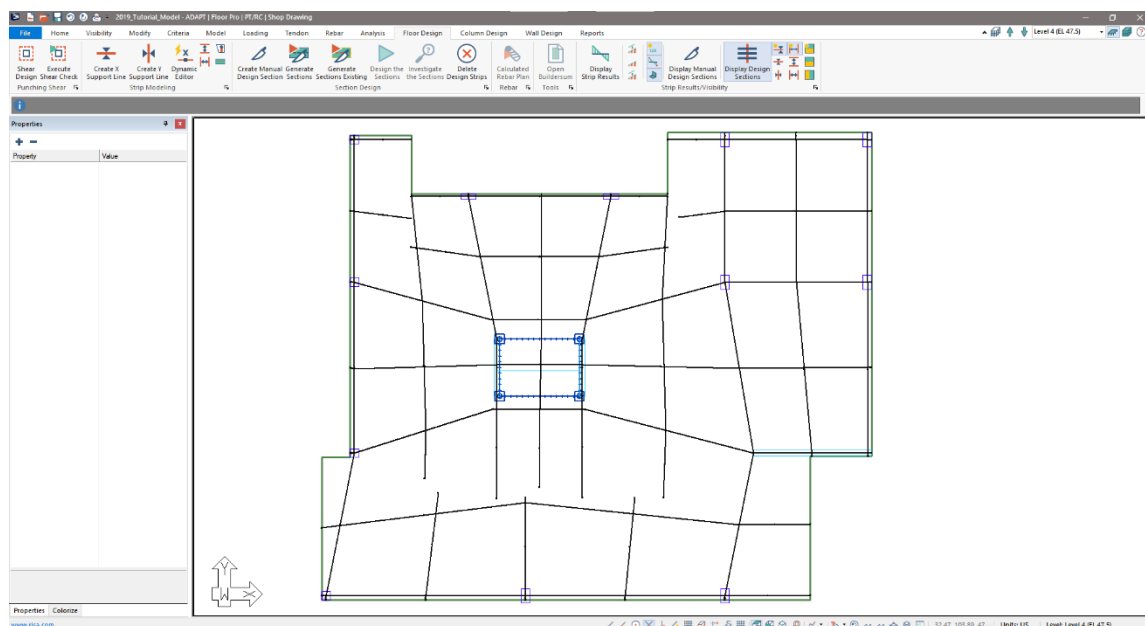

Figure 10-15
- Click *Close* on the *Support Line Dynamic Editor*. The user should now see the middle strips created on plan in with the column strips in black as shown in **FIGURE 10-15**.